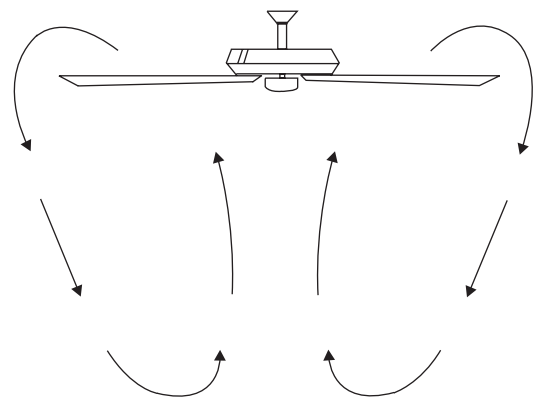

Figure 22
**Cool weather - (Reverse)** An upward airflow moves warm air off the ceiling area as shown in Fig. 22. This allows you to set your heating unit on a cooler setting without affecting your comfort.